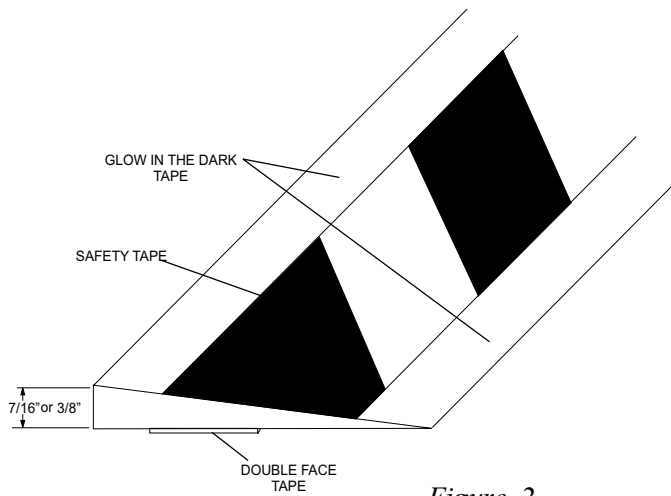

Figure 2
3. Apply the two side tape to the bottom (flat side) of each tapered molding. Refer to *Figure 2*.
4. Apply two strips of Glow In The Dark safety tape to the top (tapered side) of each taped molding. Refer to *Figure 2*.